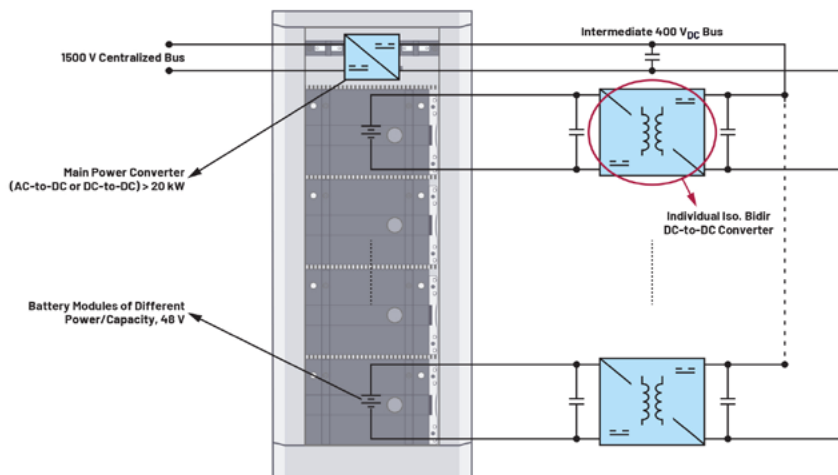

Figure 2: A modular battery-based ESS.
To tackle this limitation, in the architecture shown in Figure 2 the energy in the stack is transferred to a common, intermediate DC bus via individual DC-to-DC converters for each battery module. This energy is then used to support a centralized medium voltage (MV) AC or DC bus via a main power converter. The voltage and power levels in Figure 2 have been chosen based on typical figures from ESSs in the market: 48 V battery modules, 400 V (DC) intermediate DC buses, more than 20 kW (high power) main power converters, and up to 1500 V centralized buses.2
In Figure 2, because the ground references of each module in the stack are different, isolation is needed to implement the individual DC-to-DC converters for each battery module. In addition, for supporting hybrid systems like second-life battery ESSs, each of these converters must also be able to transfer power bidirectionally. In this way, independent charge/discharge of each module and charge balancing can be easily achieved. Therefore, the central blocks of the application herewith discussed are DC-to-DC converters that are at the same time isolated and bidirectional.